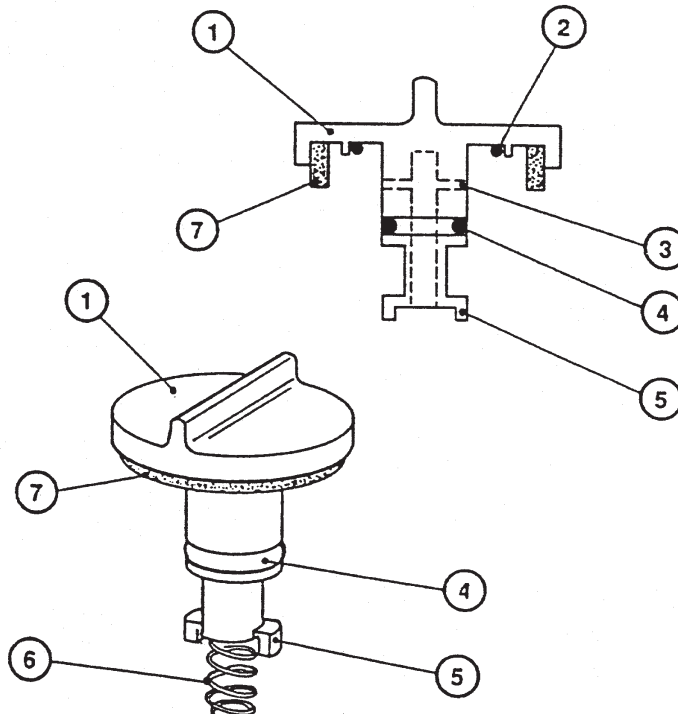

Figure 4 - Gas Ballast Control Assembly
If the oil is contaminated, or if the pump temperature is below 12 °C, or if the electrical supply voltage is more than 10% below the lowest voltage specified on the voltage indicator (Figure 4, item 4), the pump may operate at a reduced speed for a few minutes. On single-phase pumps, if the pump continues to operate at reduced speed, the motor thermal overload device will open and stop the pump. When the motor has cooled, the thermal overload device will reset automatically and the pump will restart.
Note: The gas-ballast filter element (Figure 4, item 7) is retained in its seating with adhesive; do not try to remove it.
1. Refer to Figure 4. Turn the gas-ballast control (1) to the high flow position (position 'II').
2. Push the control down against the compression spring (6) as far as it will go, then turn the control counter-clockwise slightly to release the bayonet-lugs (5) and remove the control.
3. If necessary, wipe the control with a clean, dry, lint-free cloth and check that the air-hole (3) is not blocked.